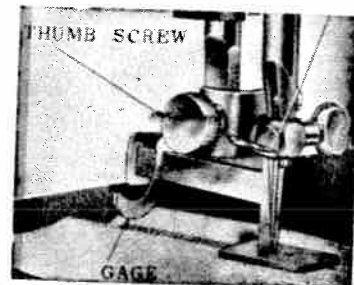

Fig. 30
2. Raise presser foot and turn balance wheel toward you to bring needle to its highest position. Remove regular presser foot from presser bar by loosening thumb screw. Instead attach special buttonhole foot shown on Fig. 30. Tighten thumb screw.